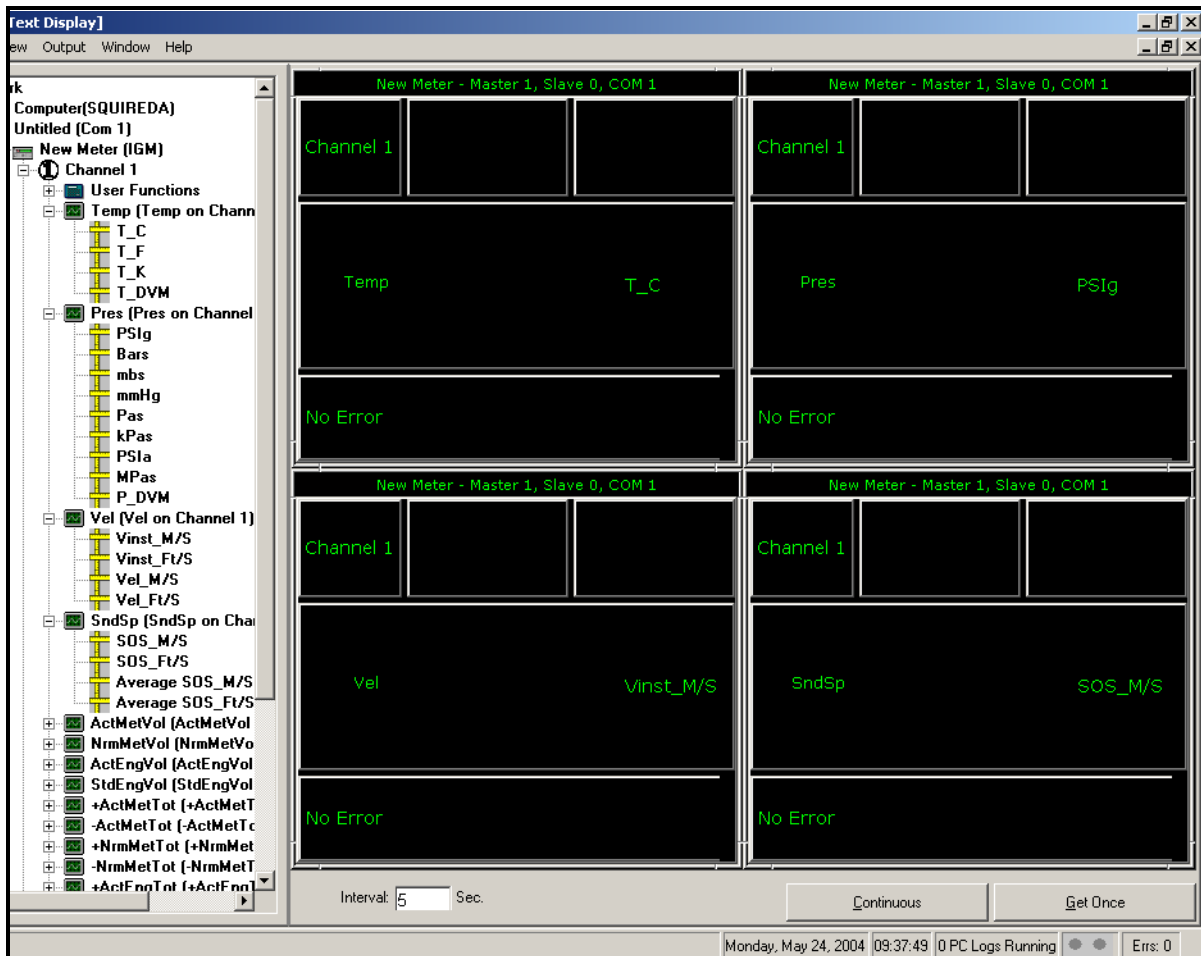
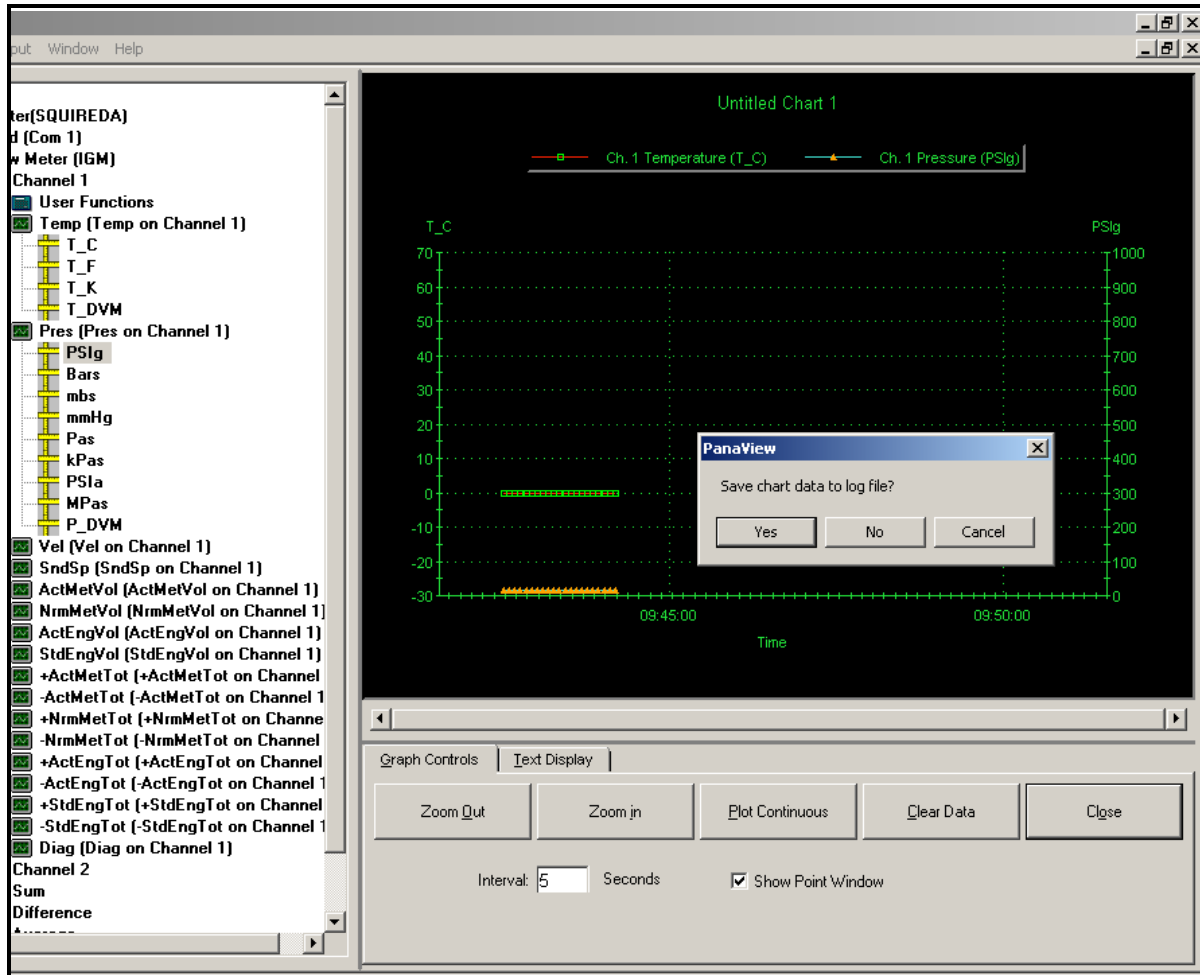

Figure 3-21: PanaView Measurements Display in Text Format
Figure 3-22: PanaView Measurements Display in Graph Format
6. Double click on the measurement(s) desired and, depending on the number of parameters chosen and the format that was selected in Step 3, a display similar to that shown in Figure 3-21 below or Figure 3-22 on page 3-20 will appear